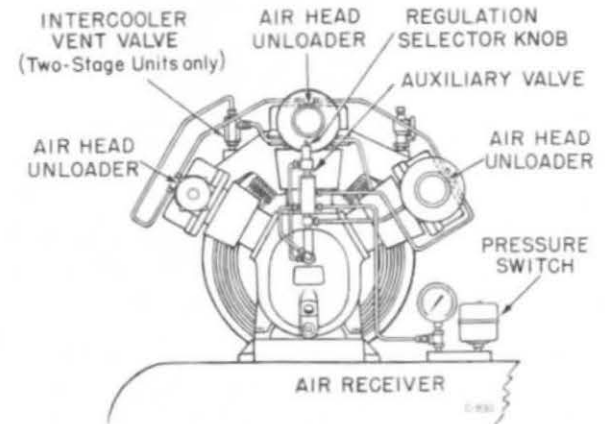

Figure 4-7. Dual Control Arrangement for Two-Stage Units. (See Figure 4-5 for Dual Control Arrangement for Single-Stage Units.)
Dual control permits a manual selection between constant speed control and automatic start & stop control. The operator may change from one type of regulation to the other by turning the regulation selector knob on top of the auxiliary valve. See Figure 4-7. With the knob screwed up the auxiliary valve's plunger is free to move. Under this condition, the auxiliary valve controls the regulation and the compressor is being regulated by constant speed control. With this type of regulation the compressor loads and unloads according to air receiver pressure while the compressor continues to operate. Refer to the following paragraph titled "Constant Speed Control" for details on this type of regulation.
1. **On units regulated by dual control**, the auxiliary valve is equipped with a regulation selector knob. Screwing this knob "up" permits the compressor to be regulated by constant speed control. Screwing the knob "down" changes the regulation to automatic start and stop control. See Figure 4-7.